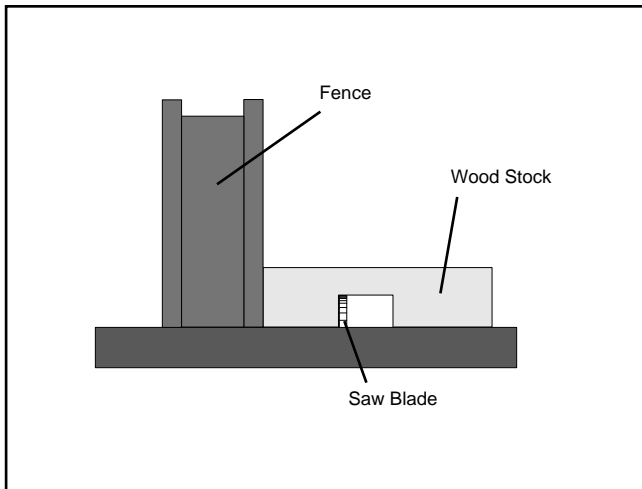

Figure 39. Single-blade dado cut.
3. If the dado runs the length of the material, adjust the fence so the blade is aligned with the inside of your dado channel. See **Figure 39**.